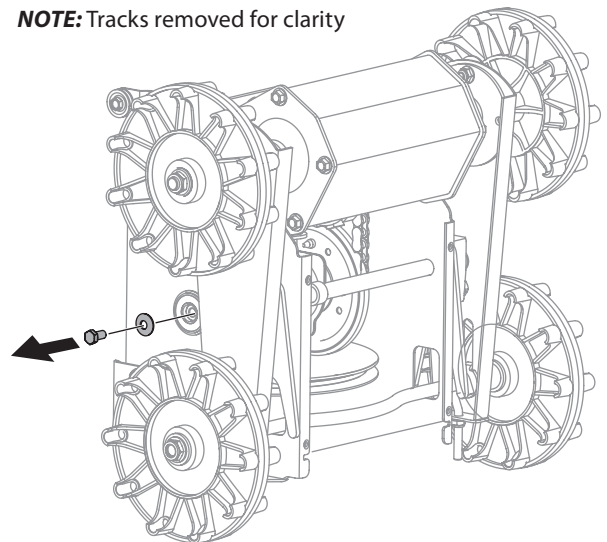
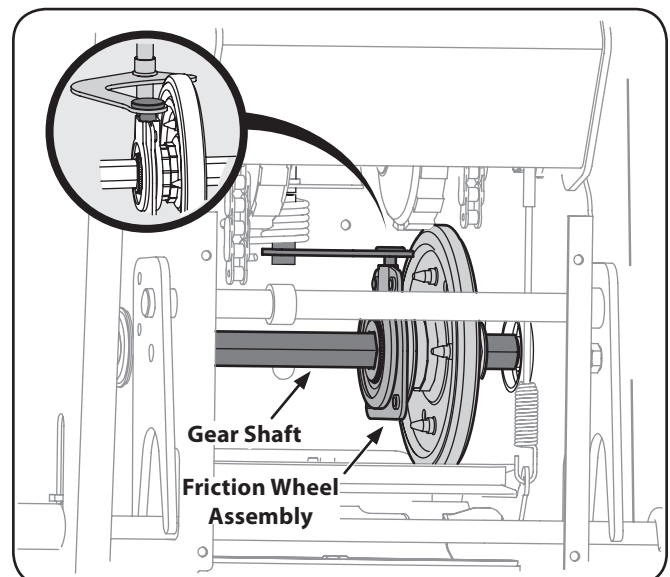

Figure 7-8
Figure 7-9
- Using a $\frac{3}{4}$ " wrench to hold the gear shaft, remove the hex bolt and bell washer on the left end of the gear shaft. See Figure 7-8 and Figure 7-9.
- Move the gear shaft to the right and slide the friction wheel assembly from the shaft. See Figure 7-9.
NOTE: Make sure the shift lever pin is in place in the bearing housing. See Figure 7-9 inset.
- Position the friction wheel assembly up onto the pin of the shift rod assembly, and slide the shaft through the assembly. See Figure 7-9. Reassemble in reverse order.